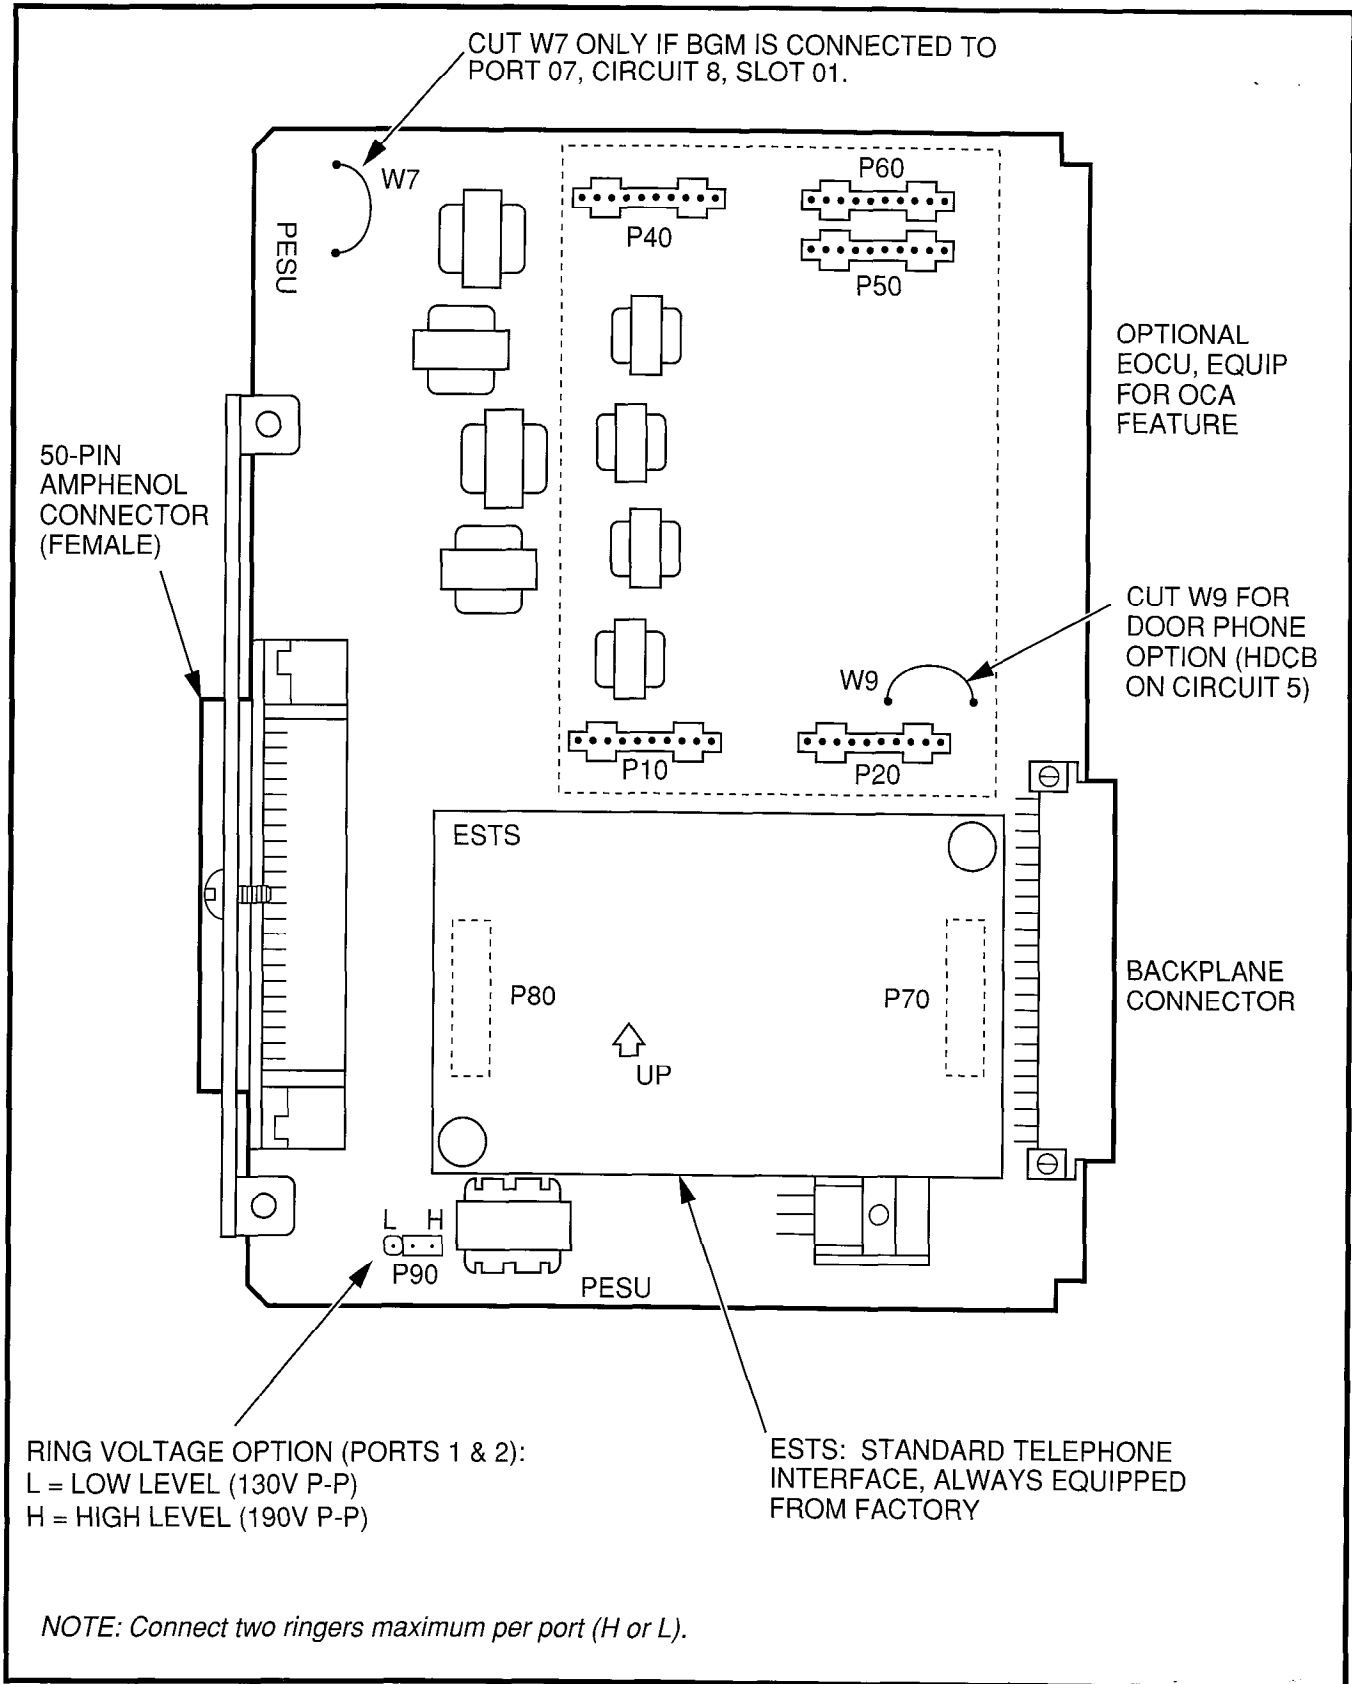

FIGURE 6-7—PESU PCB OPTION LOCATION AND IDENTIFICATION
6.03 The PESU controls and interface connectors are shown in Figure 6-7 and described in Table 6-D.
PESU connectors **P10**, **P20**, **P40**, **P50**, and **P60** are positioned to allow installation of the EOCU only in the proper position (refer to Figure 6-7).
- 2) Mate the EOCU connectors **J10, J20, J40, J50,** and **J60** with the PESU connectors **P10, P20, P40, P50,** and **P60** (refer to Figure 6-7).
- 2) Ensure that the PESU subunit (ESTS) is securely attached to the PESU (refer to Figure 6-7).